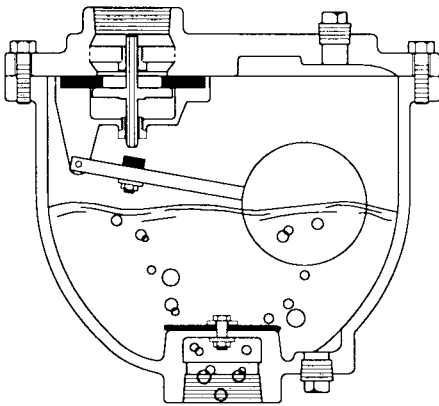

FIGURE 3. Accumulated Air Continuously Released
2. As air accumulates in the piping system and enters the valve, the float drops and the orifice button breaks contact with the plug stem. Accumulated air will vent through the plug stem. As the air is vented, the float raises once again and closes the plug stem orifice. See Figure 3.